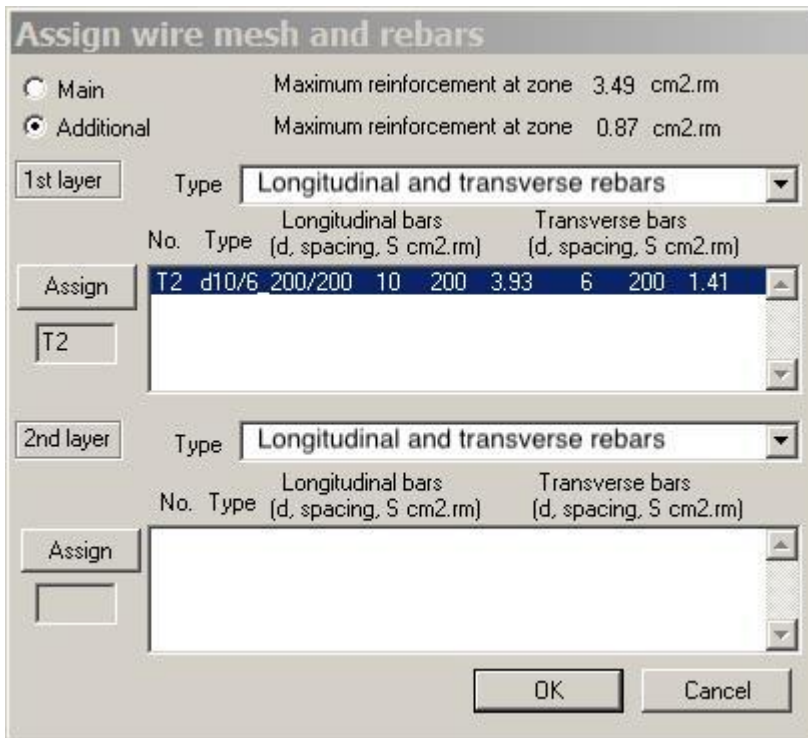

Figure 2.7.7 **Assign wire mesh and rebars** dialog box
- ⇒ In the **Assign wire mesh and rebars** dialog box (see Fig.2.7.7), do the following: